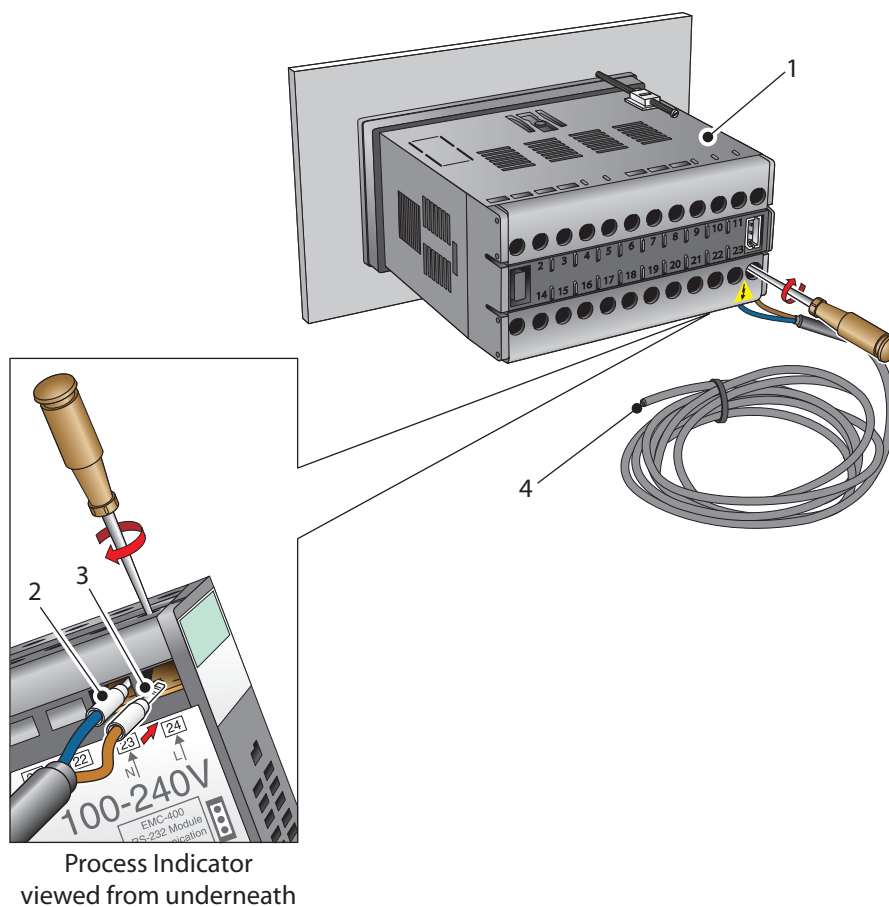

Figure 3.7 AC power supply connections
Connect the AC power supply to the process indicator (1) as shown in *Figure 3.7*. Refer also to Table 3.1 which gives a summary of all the connections to the rear panel of the process indicator.